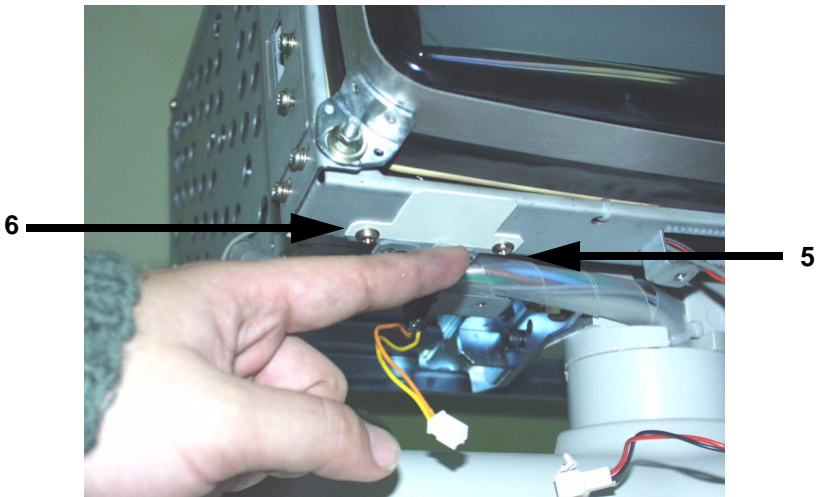

Figure 8-17 Unscrew two screws
- 3.) Unscrew two (5-6) screws to remove the TaskLamp Assy. Refer to Figure 8-17.